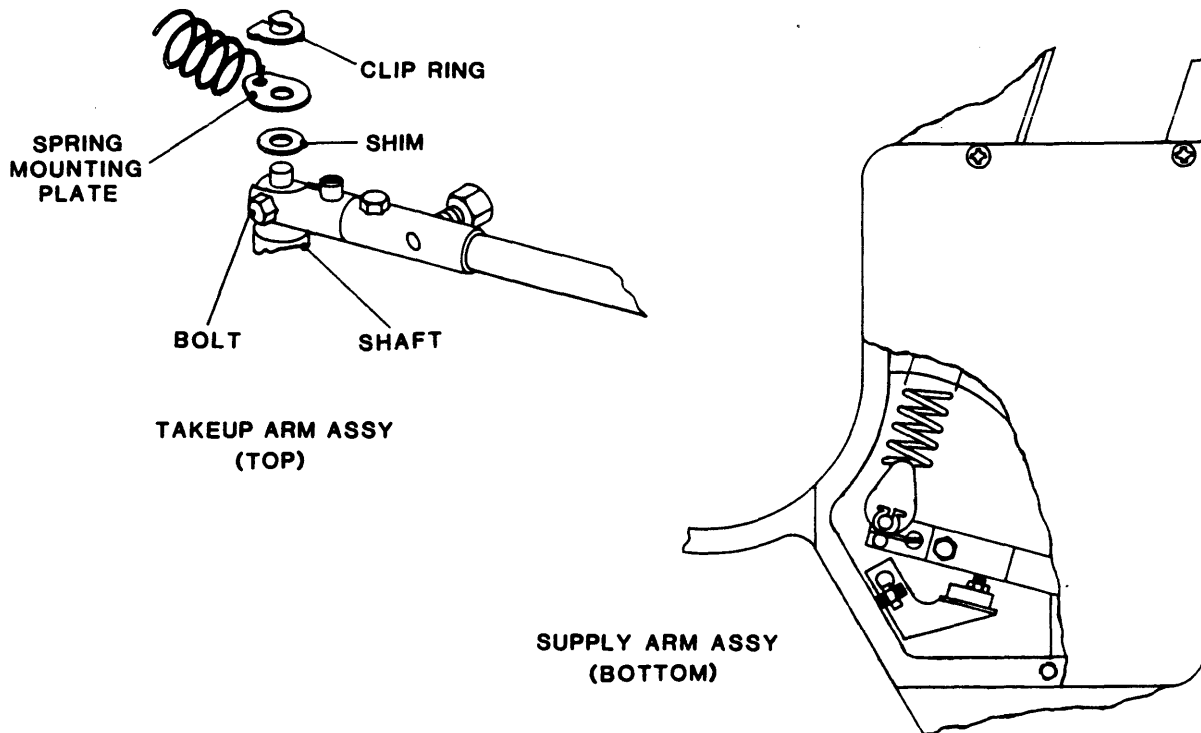

Figure 4-17 Takeup-Arm and Supply-Arm Assemblies
4.3.18 TAKEUP ARM ASSEMBLY (TOP) (Fig. 4-17)
4.3.19 SUPPLY ARM ASSEMBLY (BOTTOM) (Fig. 4-17)